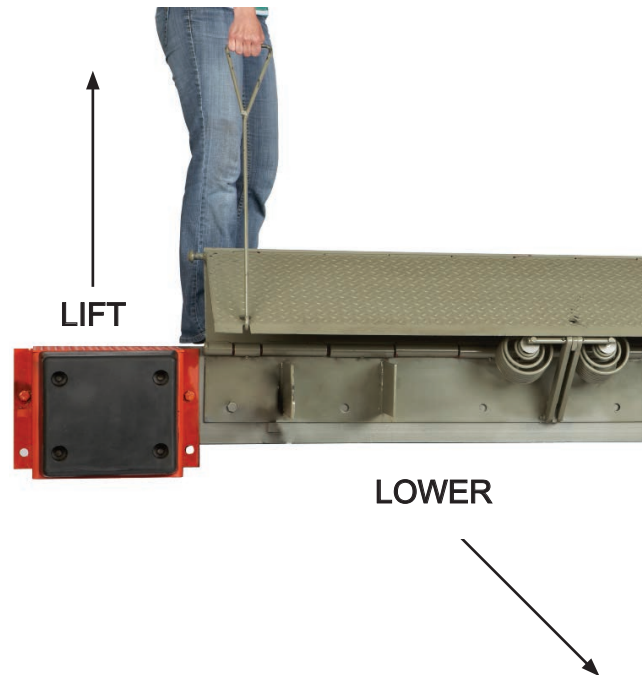

Figure 14
b. Actuate the leveler by placing the lifting hook into lip plate notch and manually lifting the hook until the lip plate section extends over the transport vehicle bed. Then, lower lip to bed of the transport vehicle. See Figure 14.